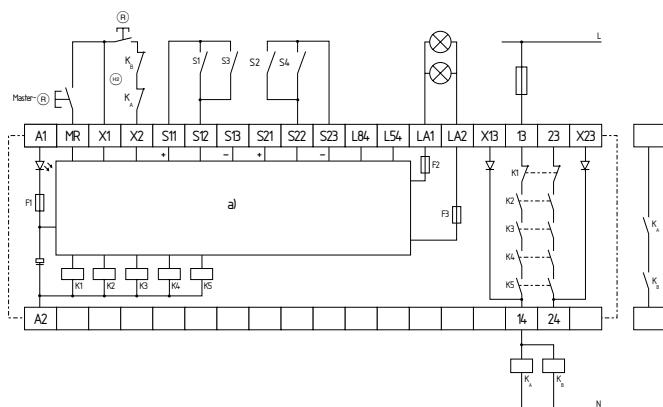

Fig. 4:
Dual-channel control, shown for 2 muting sensors and an external master reset button (R) (Fig. 4)